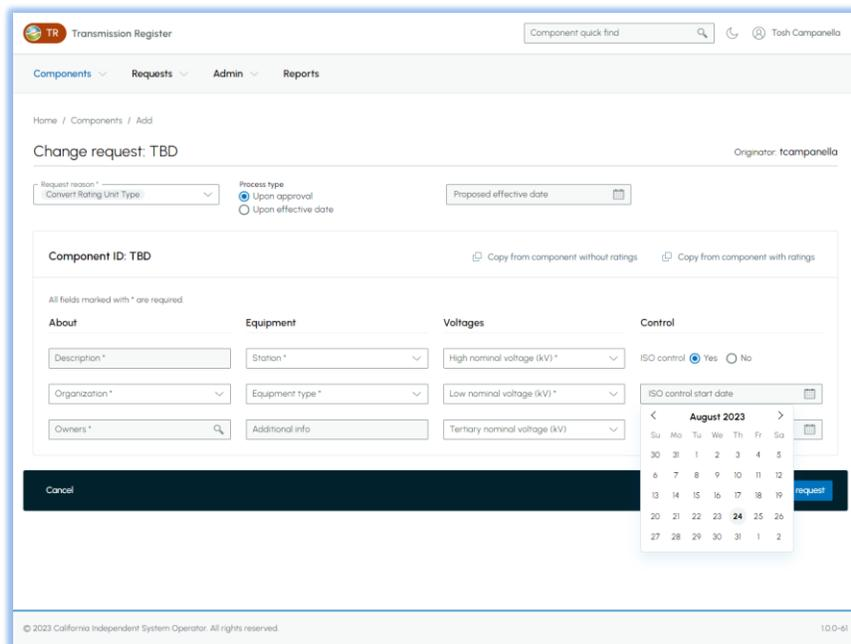

Figure 9 Calendar Icon
- 6) Type in the Description of the equipment. This is free-text, which can include up to ninety-six (96) characters.
- 11) Type in, if needed, the ISO Control Start Date, or select by clicking on the date icon and a calendar displays (shown in Figure 9). Click the desired day of the month and the calendar automatically closes.